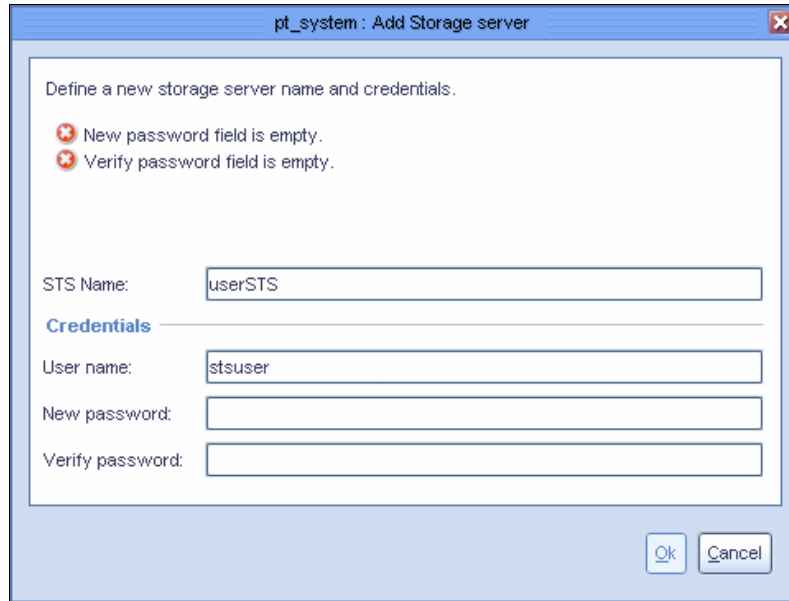

Figure 9-6 Add Storage server window
5. Enter a password in the New Password field and reenter the password in the Verify password field, as shown in Figure 9-6.